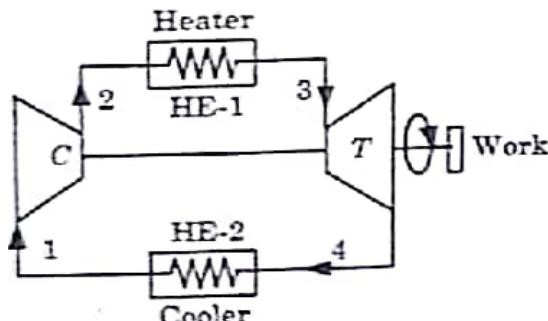

Fig. 1.26.1.
- The basic components of a Brayton cycle are shown in Fig. 1.26.1.